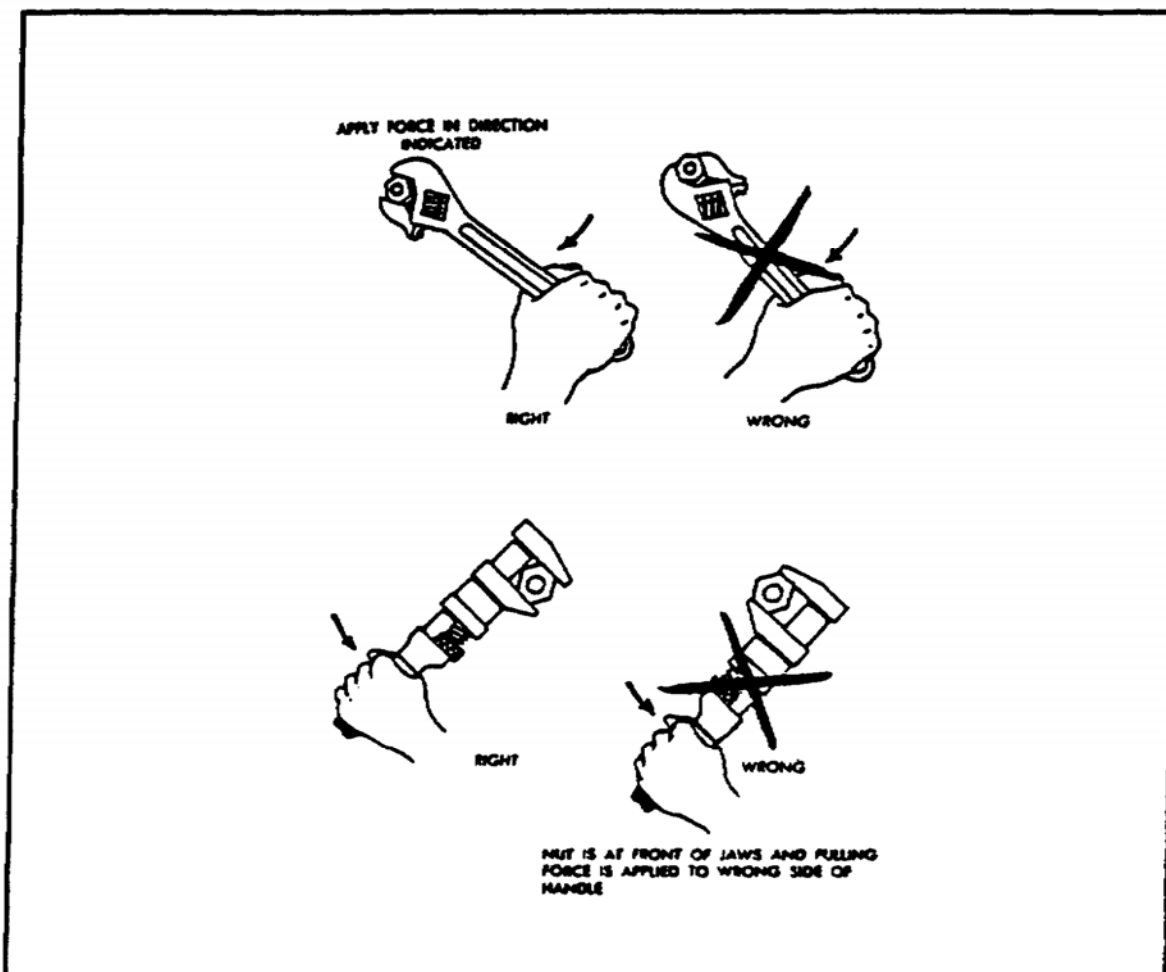

FIGURE 26. USING ADJUSTABLE WRENCHES.
(5) *Adjustable Open-End Wrench*. Always place the wrench on a nut or bolt so that the force used to turn it is applied to the stationary jaw side of the wrench, as shown in figure 26. After placing the wrench in position, straighten the knurled adjusting nut until the wrench fits the nut or bolt head as tightly as possible. If it does not fit tightly, it will slip, which may result in an injury to your hand and which may also round the corners of the nut or bolt head.
**Always place the wrench on a nut or bolt so that the turning force is applied to the back of the handle; that is, the side of the wrench opposite the jaw opening, as shown in figure 26.**